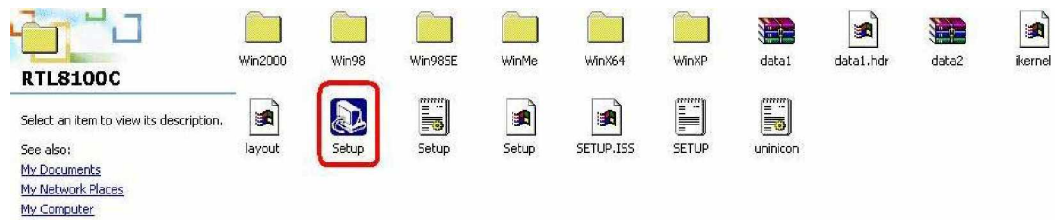

Figure 6-20: Locate the Setup Program Icon
Step 3: Locate the **Setup** program icon (**Figure 6-20**).
Step 4: Double click the **Setup** program icon in **Figure 6-20**.